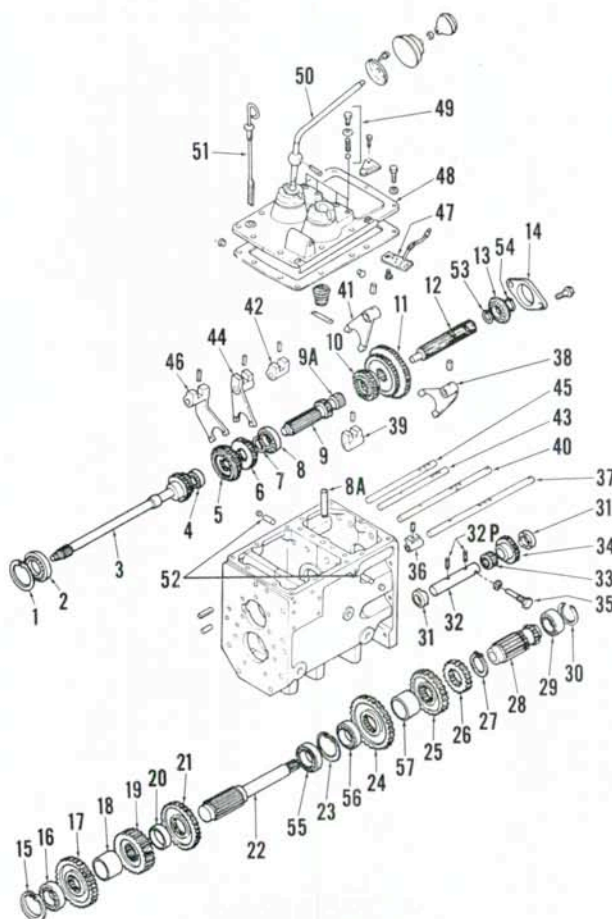

Fig. 197—Exploded view of nonsynchromesh transmission typical of 1300, 1310, 1500, 1510 and 1710 models equipped with transmission driven pto.
122. To disassemble, remove retaining wires through shift forks and bosses. Drive roll pins from shift rails, then slide range shift rails (37 and 40—Fig. 197) forward and remove shift forks (38 and
Remove bearing retaining ring (1—Fig. 197 or 198), then withdraw transmission input shaft (3) and bearing (2) from front of housing. Move transmission mainshaft (9) forward until bearing (8) is free from housing bore, then withdraw mainshaft and gears (5
On all models, remove snap ring (15—Fig. 197 or 198) retaining front countershaft front bearing (16). Tap countershaft (22—Fig. 197 or 64—Fig. 198) with front bearing forward out of housing. Withdraw countershaft gears (17, 19 and 21) and spacers (18 and 20)
install gear (34—Fig. 197 or 198) with longer hub side facing forward and notched surfaces of thrust washers (31) toward the gear. Install retaining bolt (35) with new seal washer making sure bolt engages hole in shaft (32).
Install front and rear countershafts making sure that gears and spacers are correctly positioned as shown in Fig. 197 or 198.
rear while positioning range sliding gears (10 and 11) in housing as shown in Fig. 197 or 198. Install range shift forks, bosses and shift rails. Drive in roll pins
Fig. 198 — Exploded view of nonsynchromesh transmission typical of 1310, 1510, and 1710 models equipped with optional engine driven live pto. Refer to Fig. 197 for legend except for following parts.